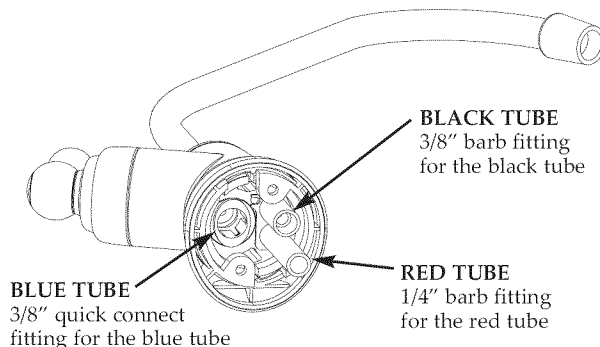

Figure 14
4. Feed a length of 3/8" blue tubing up through the hole and connect to the 3/8" quick connect fitting on the bottom of the faucet. See Figure 14.
5. Feed a length of 1/4" red tubing up through the hole and connect to the 1/4" barb on the bottom of the faucet. See Figure 14.
6. Connect the length of 3/8" black tubing to the 3/8" barb on the bottom of the faucet. See Figure 14.